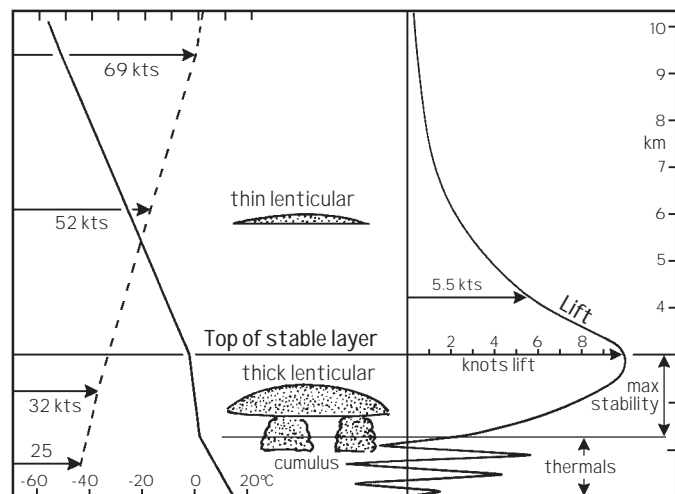

Figure 1 Profiles of temperature, wind speed, and lift in a lee wave.
**T**HE FIRST THEORIES of lee waves assumed that the undulation was set off by a mountain ridge lying more or less at right angles to the wind. The temperature profile most suitable for waves showed very stable air at low levels capped by a deeper layer of a less stable air aloft. The wind direction needed to be fairly constant while the wind speed increased with height. Wally Wallington soon noticed that the most common situation had a shallow unstable layer at the bottom, then the inversion and finally a deep layer of low stability aloft. Figure 1 illustrates the classic profiles of temperature and wind speed on the left and the distribution of lift on the right. The profile of wind speeds is an average taken from a large number of days with climbs of three kilometres or more.